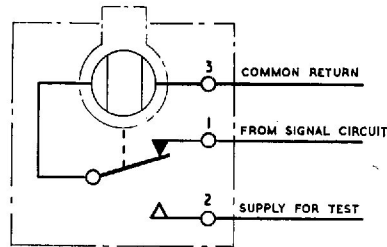

Fig. 2. Circuit diagram
3. When used as a 'normally off' indicator the lamp filament can be checked simply by pressing the transparent plastic lens. This action disconnects the lamp from its signal source, then lights it as a further contact energized from a continuous d.c. supply is reached as shown in fig. 2.